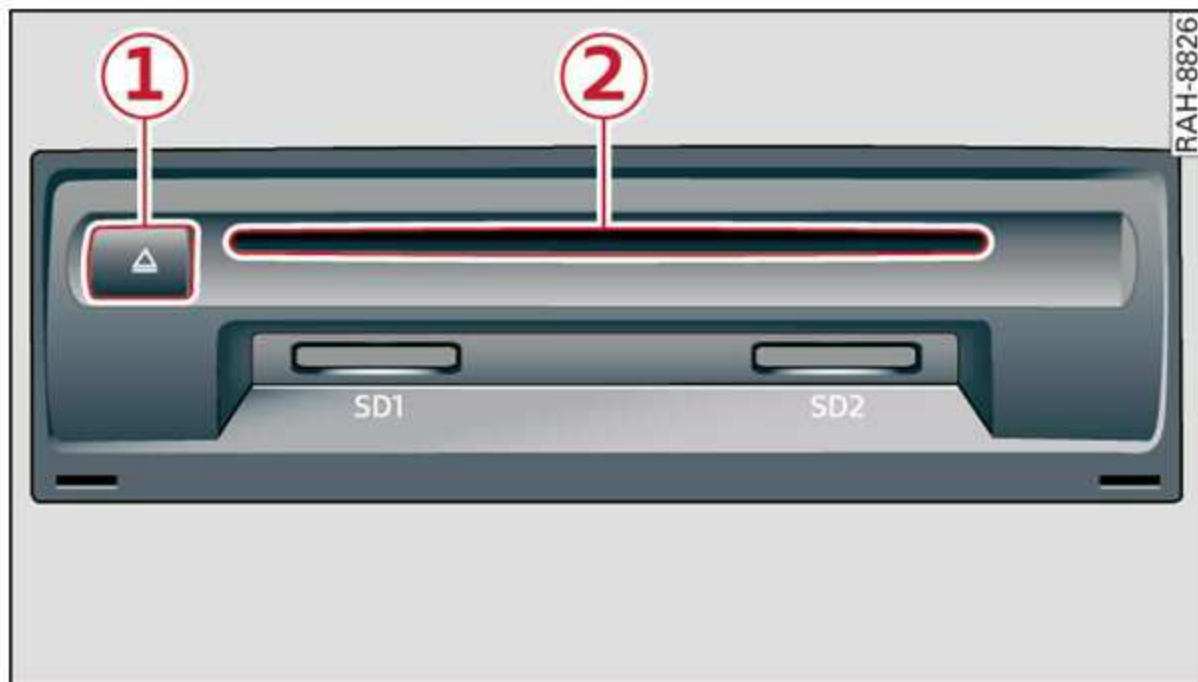

Fig. 134 Glove compartment: CD drive
- **Loading a CD:** the CD is pulled in automatically. Slide the CD straight into the CD slot ② ⇒ *fig. 134* with the label facing up.
- **Ejecting a CD:** press the button ① ⇒ *fig. 134*.